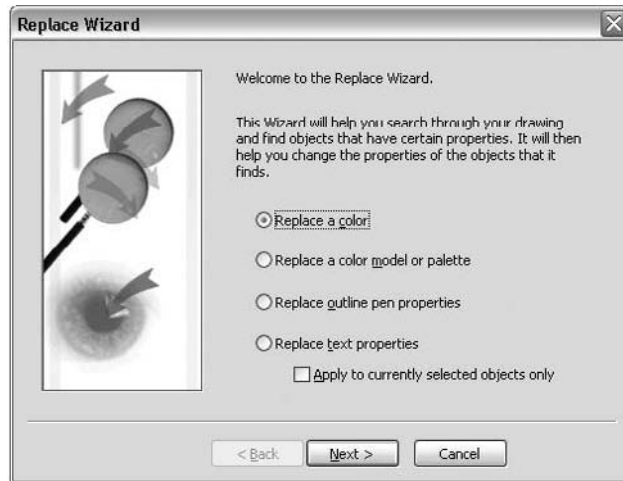

FIGURE 12-9 The Replace Wizard reveals the first step of options.
1. Open a document containing object properties you want to change. Launch the Replace Wizard by choosing **Edit | Find And Replace | Replace Objects**. The Replace Wizard opens to reveal the first set of options, as shown in Figure 12-9.
Additionally, you can find and replace text. However, this wizard is for finding and replacing the content of text, what the audience reads. It does not automatically change a font or color. If you need to find and replace a font selection, conduct a regular Replace (object), and then choose Replace Text Properties, as shown in Figure 12-9.